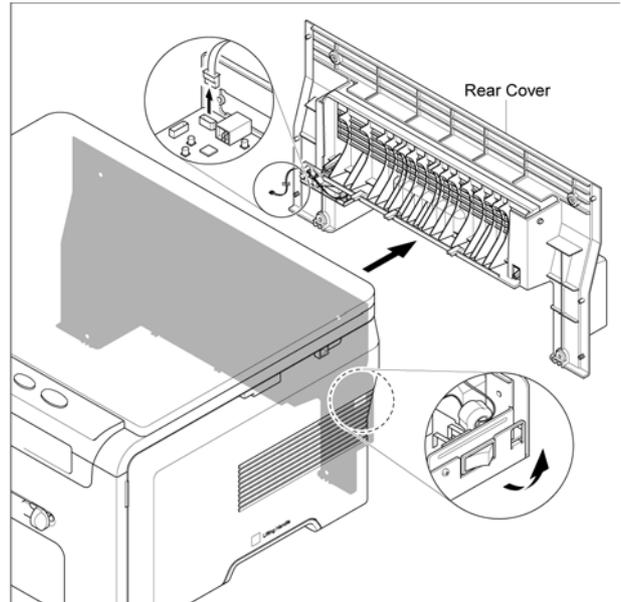

Figure 2
2. Remove the Rear Cover and disconnect CN 7 from the Main PBA, Figure 2.